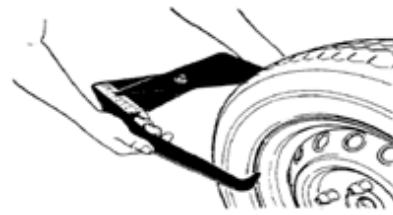

Fig.2
- set “b” value: set nominal diameter “b” marked on the wheel or use the width gauge to measure the value of “b” as Fig.2, then press **b+** and **b-**.